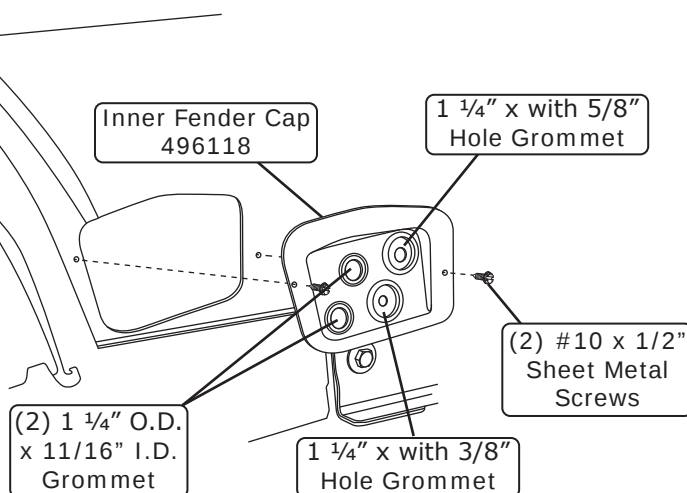

Figure 1a
2. Install (4) grommets in the inner fender cap (See Figure 1a, below).
3. Install the inner fender cap in wheel well side using (2) #10 x 1/2" sheet metal screws as shown in Figure 1a, below.